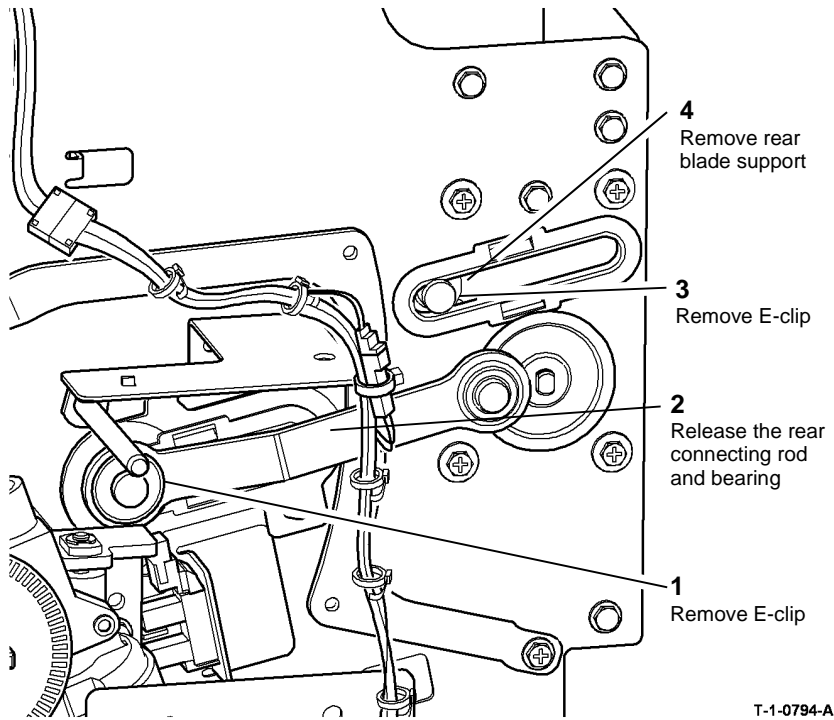

Figure 3 Rear support removal
7. Figure 3, remove the rear blade support.